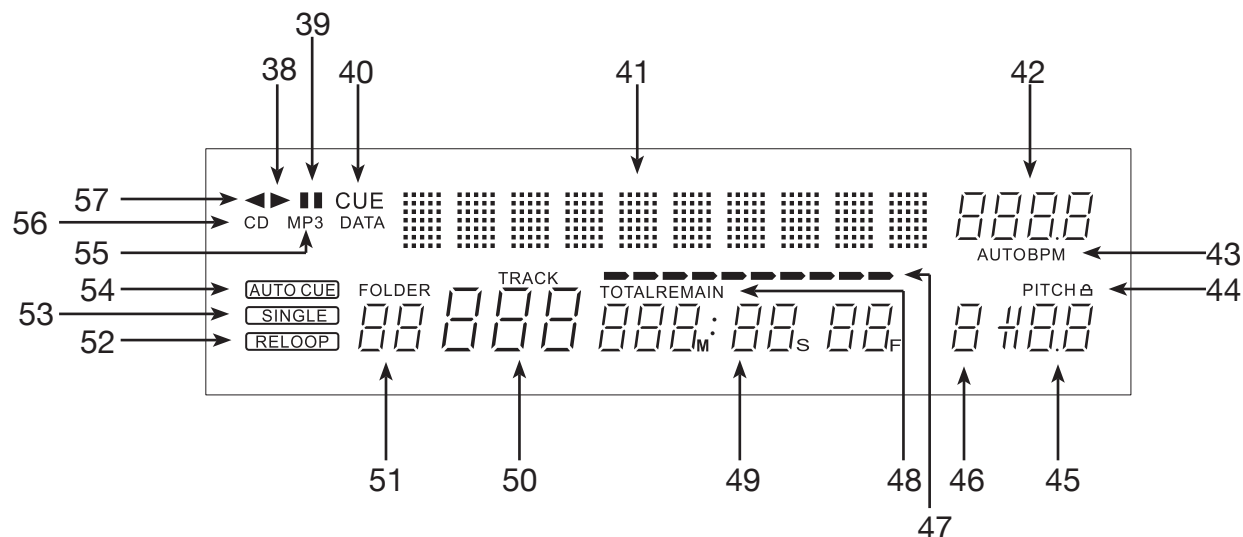

Figure 5
C. VFD DISPLAY PANEL (FIGURE 5)